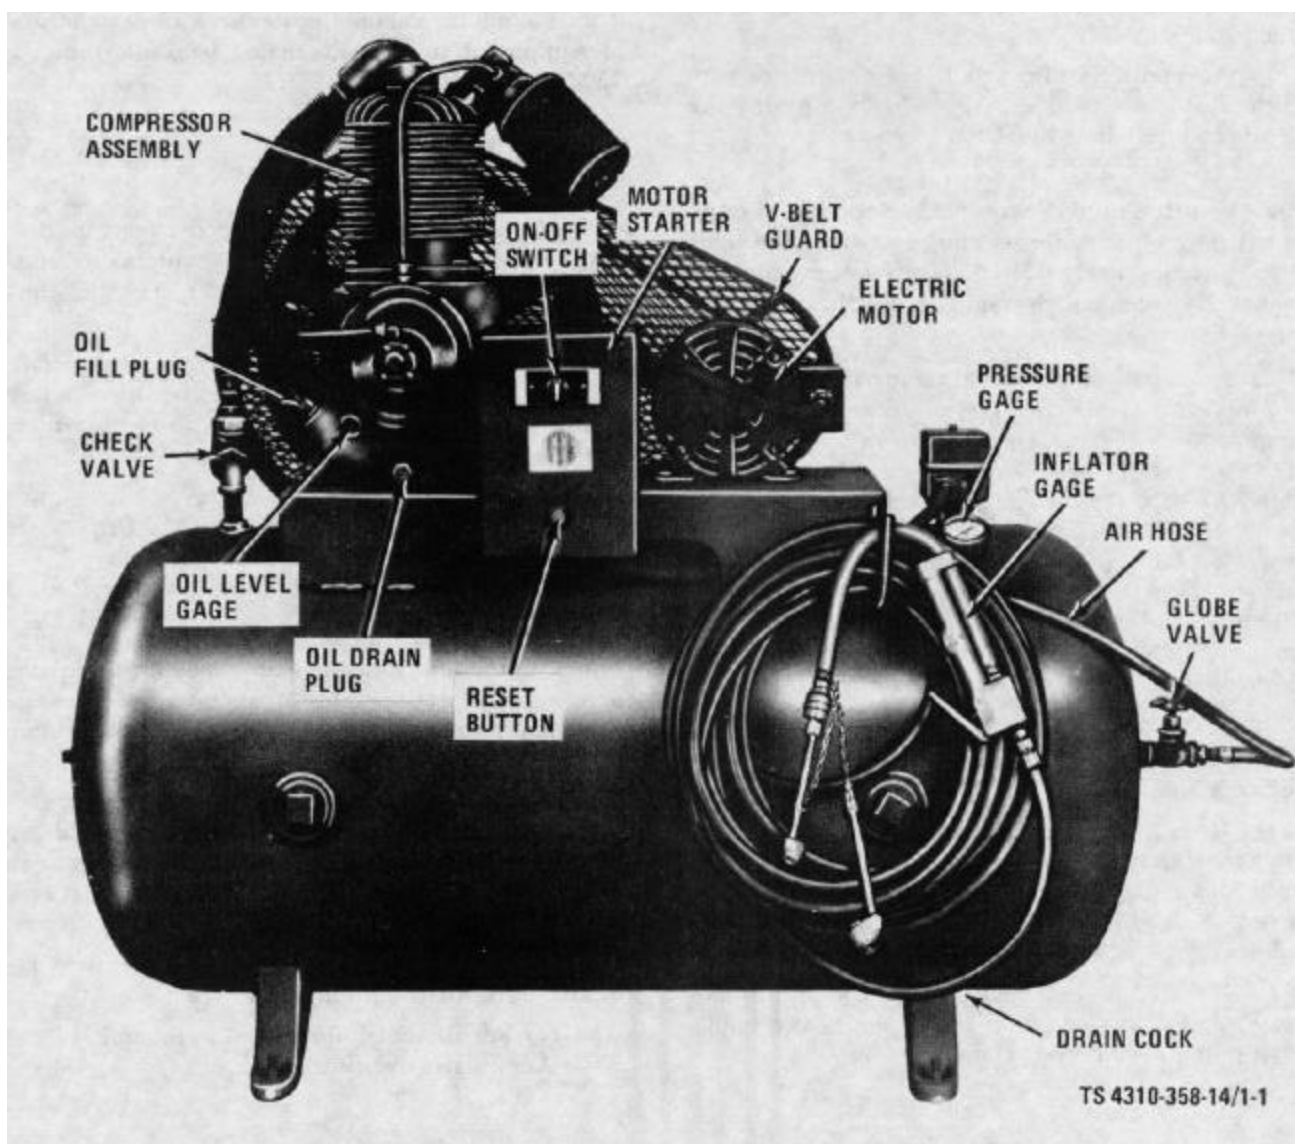

Figure 1-1. Air Compressor, right side view.
a. The HR2-6M-2 (Fig. 1-1 and 1-2) is a two cylinder, reciprocating type air compressor capable of delivering 5 cubic feet per minute (0.1415 cu meters per min). The compressor assembly and associated electric motor are mounted on a frame which is welded to the air receiver, and 60 gallon steel tank. The electric motor drives the compressor assembly by means of a matched pair of V-belts.
b. Globe Valve. The globe valve (fig. 1-1) mounted on the end of the air receiver tank is a manually operated valve that opens the flow of compressed air to the air hose.
c. Drain Cock. The drain cock (fig. 1-1) mounted on the underside of the air receiver tank is a manually operated valve used to drain compressed air and condensation from the air receiver tank. Receiver should be drained daily when the air compressor is in use.
d. Oil Level Gage. The oil level gage (fig. 1-1) mounted in the compressor crankcase is a direct reading, glass covered gage used to check the level of the oil in the compressor crankcase.
e. Air Receiver Tank Pressure Gage. The air receiver tank pressure gage (fig. 1-1) mounted on the side of the air receiver tank, is a needle-indicating, direct-reading, pressure-operated gage graduated in pounds per square inch (psi) and kilograms per square centimeter (kgs per sq cm), the gage is graduated from 0 to 300 psi in increments of 5 psi, and from 0-21.1 kgs sq cm in increments of 50 centimeters. The gage indicates the air pressure in the air receiver tank. Normal operating pressure is 165 psi (11.60 kgs per sq cm) to 190 psi (13.36 kgs per sq cm).
g. ON-OFF Starter Switch. The on-off starter switch (fig. 1-1) is a manually actuated switch located top center of the motor starter box cover. In OFF position the compressor motor will not operate. When the selector is turned to ON position the compressor will operate until pressure in air receiver tank reaches 190 psi (13.36 kgs per sq cm) then the pressure switch automatically shuts-off the motor. The compressor will recycle again automatically when pressure drops below 165 psi (11.60 kgs per sq cm) and continue to cycle automatically in this ON position.
h. Reset Button. The reset button (fig. 1-1) mounted on the cover of the magnetic starter, below the ON-OFF switch, is a manually operated button, which when pushed, resets the thermal relay in the magnetic starter.
j. Inflator Gage. The inflator gage (fig. 1-1) controls and indicates the amount of air being discharged.
(1) Inspect the electric motor to make sure it is properly wired from incoming power source and that power is on.
(2) Turn ON-OFF switch (fig. 1-1) to "ON" position.
Should the compressor fail to start, depress the reset button (fig. 1-1).
(2) Turn ON-OFF switch (fig. 1-1) to "OFF" position.
(3) Open the drain cock (fig. 1-1) in the bottom of air receiver tank to release the compressed air and condensation from the air receiver tank.